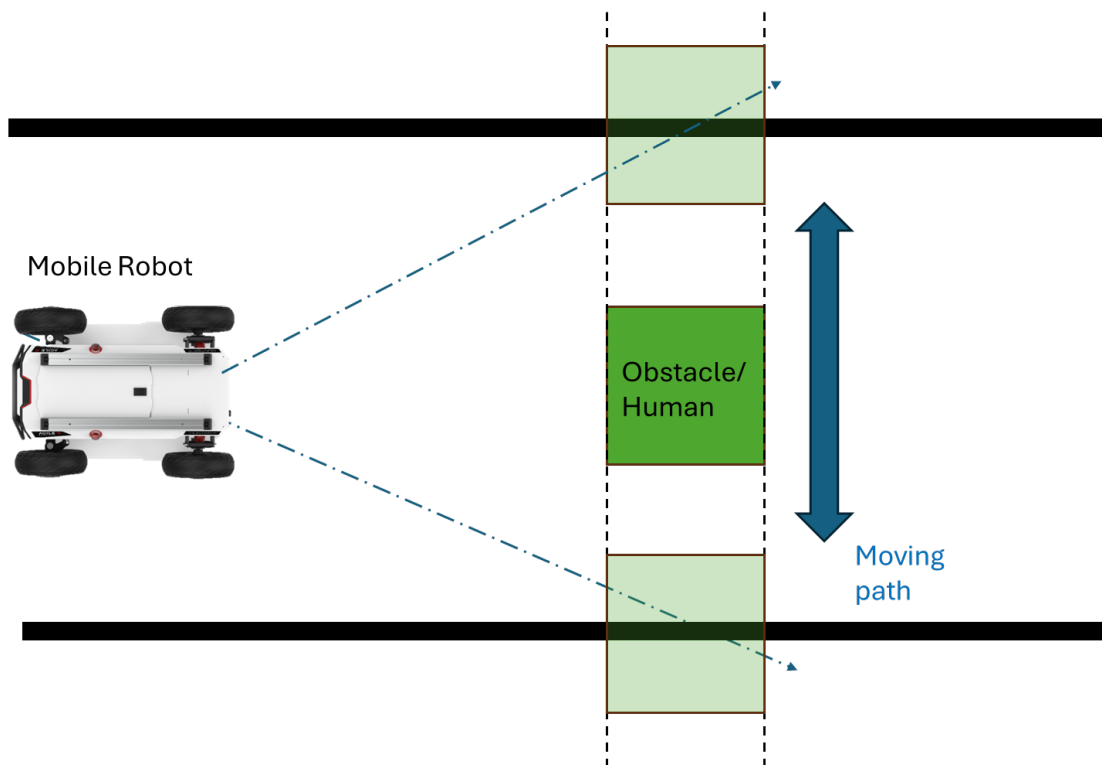
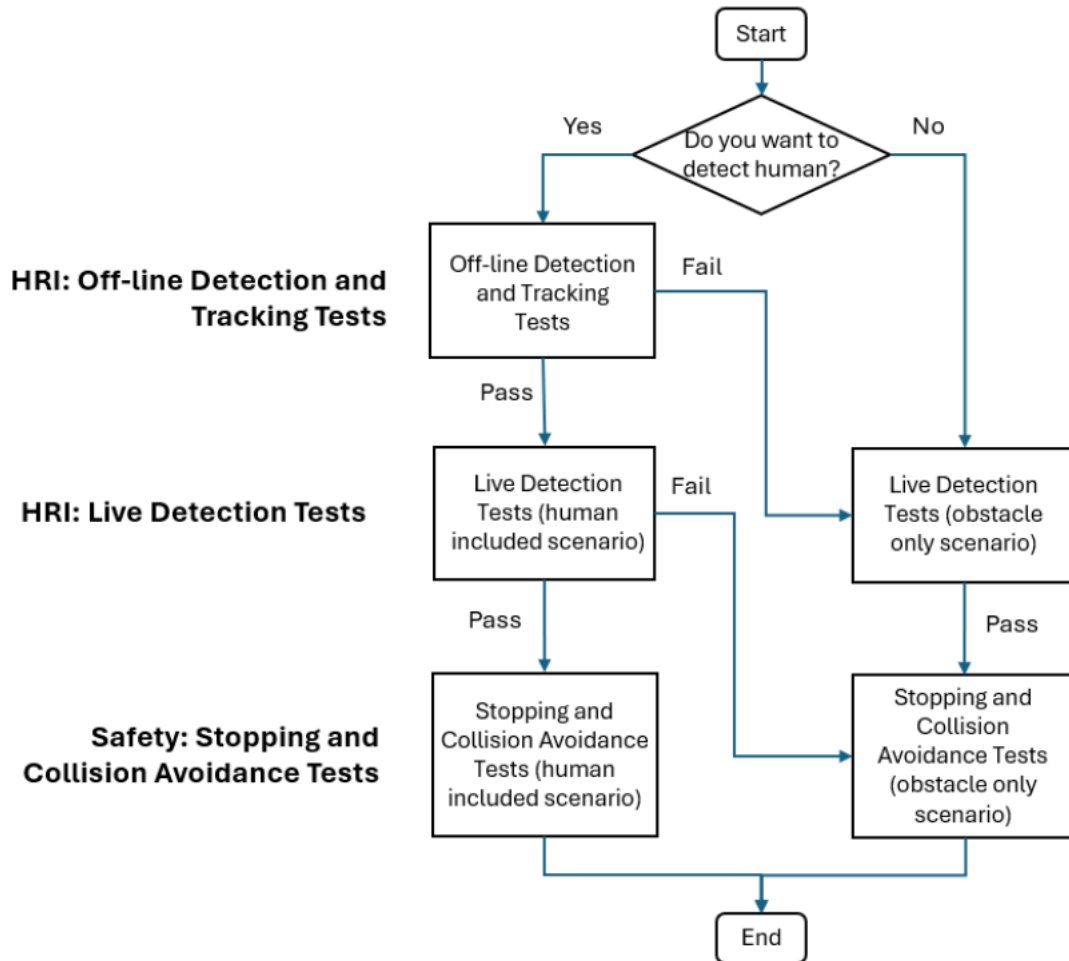

Figure 2: Test Scenario Example. Robot is stationary.
Figure 3. Test Sequence Flow
Precondition: The robot system must have passed the separate **HRI: Off-line Detection and Tracking Test** before involving real people in the test procedure described here (refer to Figure 3 for detailed information).
- v1.2/16-Sep-2025/ZH Added an example of obstacles (trolley image, Figure 1), amended original Figure 1 to Figure 2, Figure 2 to Figure 3.